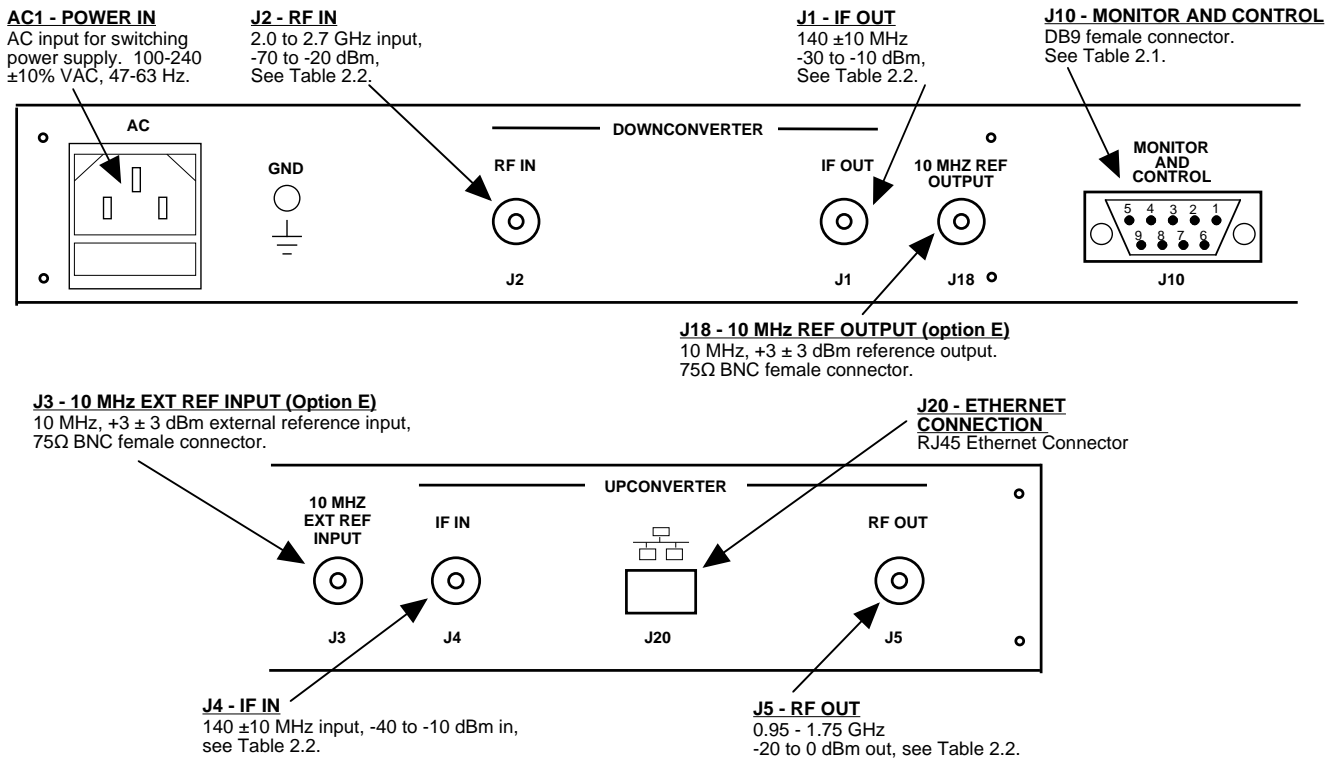

Figure 2.1 Model 2017-1727-140 Rear Panel I/O's
## 2.2 Rear Panel Input/Output Signals and Control - Figure 2.1 shows the input and output connectors on the rear panel.
- 1.) Connect a -40 dBm to -10 dBm signal to IF In, J4 (Figure 2.1).
- 1.) Connect a -70 dBm to -20 dBm signal to RF In, J2 (Figure 2.1).